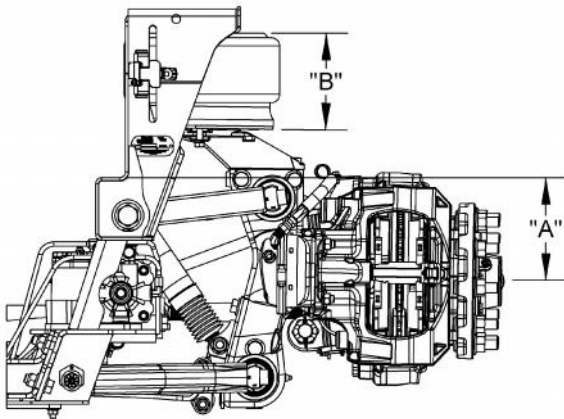

Figure 10 – Measurement at Ride Height
The ride height of the front suspension is the distance from the bottom of the chassis frame rail to the center of the wheel spindle. An alternate measurement may be taken as the height of the air spring (Figure 10).
4. Measure either the wheel center to bottom of frame ("A") or air spring height ("B"). If the dimensions are not within $\pm 1/8$ " of measurements in Figure 10, adjust as follows.